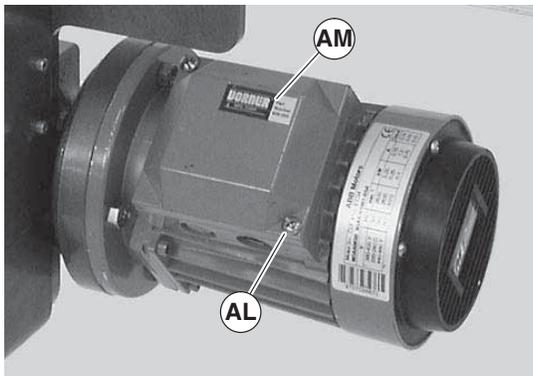

Figure 23
- a. Loosen terminal box screws (Figure 23, item AL) and remove cover (AM).